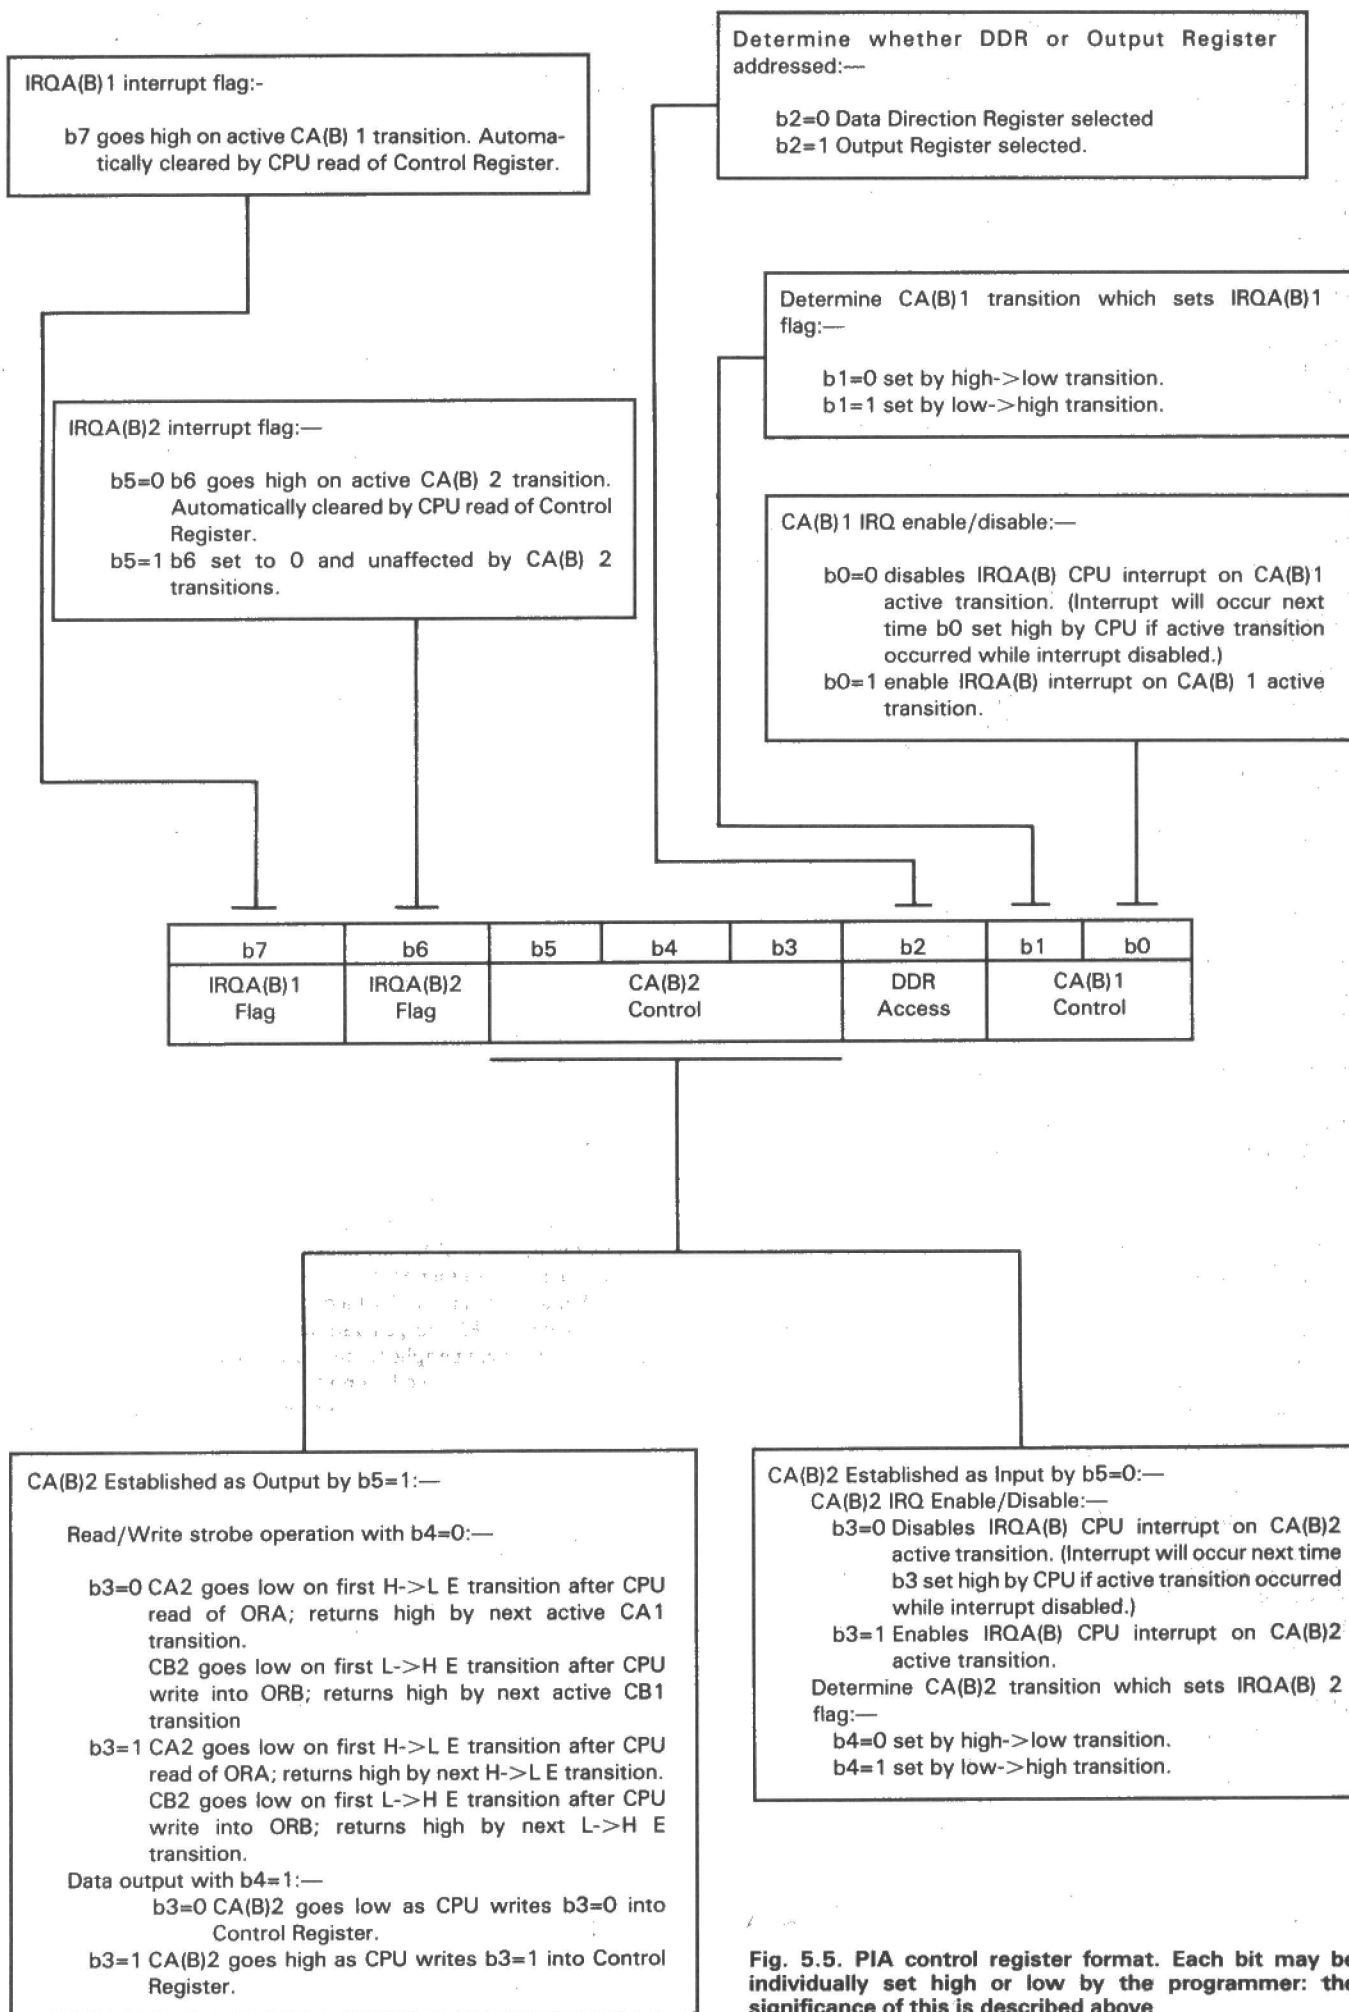

Fig. 5.5. PIA control register format. Each bit may be individually set high or low by the programmer: the significance of this is described above
The detailed structure of the PIA's A and B control registers (CRA and CRB) is shown in Fig. 5.5, and these really provide the key to interrupt-driven applications involving the PIA. From Fig. 5.5 we can see that, in addition to the DDR access bit (2) we have already been using, there are two other groups of bits. The first group control the action of the CA/CB lines (bits 0 and 1 for CA1/CB1, and bits 3 to 5 for CA2/CB2), while the second group act as the interrupt flags (bit 6 is the flag for CA2/CB2, and bit 7 for CA1/CB1).
Even if special interrupt processing hardware is used in the system, the PIA has only two interrupt outputs, shared by CA1/CA2 and CB1/CB2, respectively. The purpose of the interrupt flags is therefore to identify the source of an interrupt. As can be seen from Fig. 5.5, the flags are automatically cleared whenever the CPU reads the control register. This minimises the work which has to be done in the service routine before interrupts can be re-enabled, and avoids the problem of the same event causing repeated interrupts because the programmer has forgotten to clear the flag. After a reset, the PIA interrupts are all disabled and the flags all cleared.